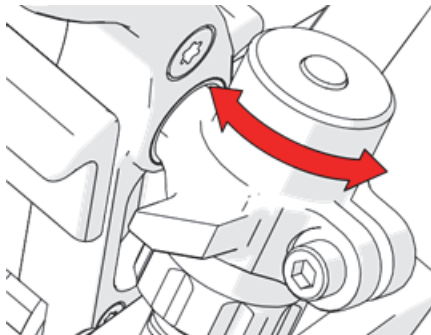

Figure 1-41 Rotate the tension cylinder
2. Rotate the tension cylinder to increase or decrease the amount of pressure (see Figure 1-41 on page 55).